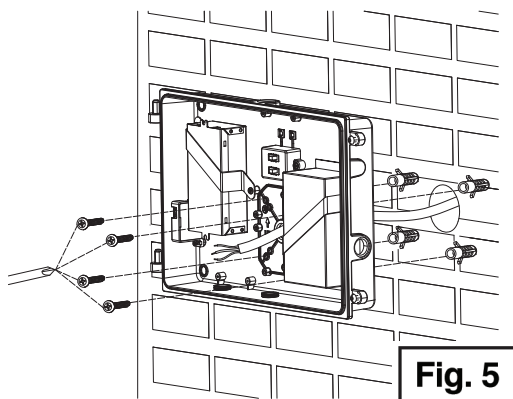
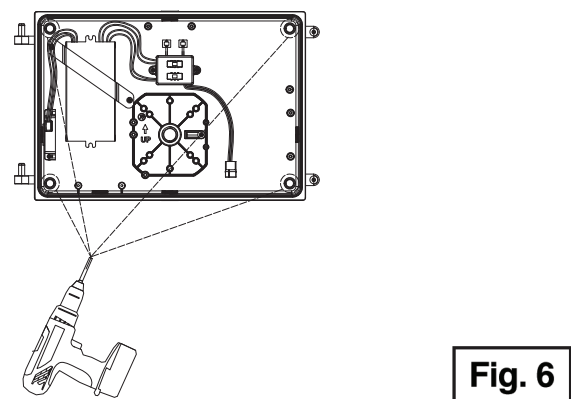

Fig. 5
Fig. 6
5. Using four (4) anchor bolts (not included), secure the back plate to the wall and pull the supply wires into the fixture through the KO hole. **Note:** These bolts provide structural support, anchoring the fixture to the wall. (See Fig. 5) If mounting to a j-box drill four (4) holes in the corners of the back plate for these anchor bolts. (See Fig. 6)